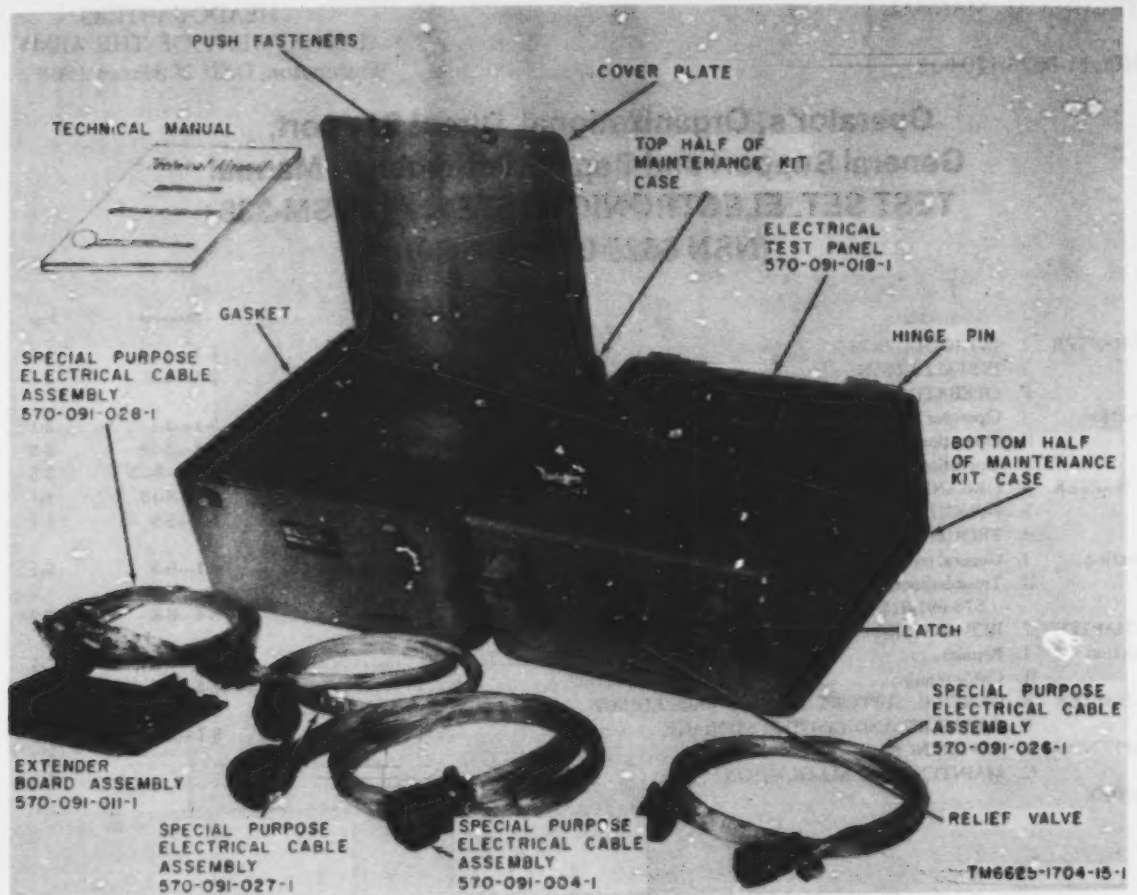

Figure 1-1. Electronic System Test Set AN/ASM-338.
a. This manual describes Electronic System Test Set AN/ASM-338 (fig. 1-1) and provides instructions for its operation and maintenance. It includes operation under usual and unusual conditions, cleaning and inspection of the equipment, replacement of parts, and repairs. It also includes a maintenance allocation chart (app C).
Electronic System Test Set AN/ASM-338 (fig. 1-1) consists of Maintenance Kit Case BW1FA-20C20 containing Electrical Test Panel 570-091-018-1, special purpose accessories, and a copy of this manual (TM 11-6625-1704-15).
a. Maintenance Kit Case BW1FA20C20 (fig. 1-1) is a two-piece metal case. The case serves both as a storage and transport case and as a means of mounting electrical test panel 570-091-018-1 and storing the special purpose accessories.